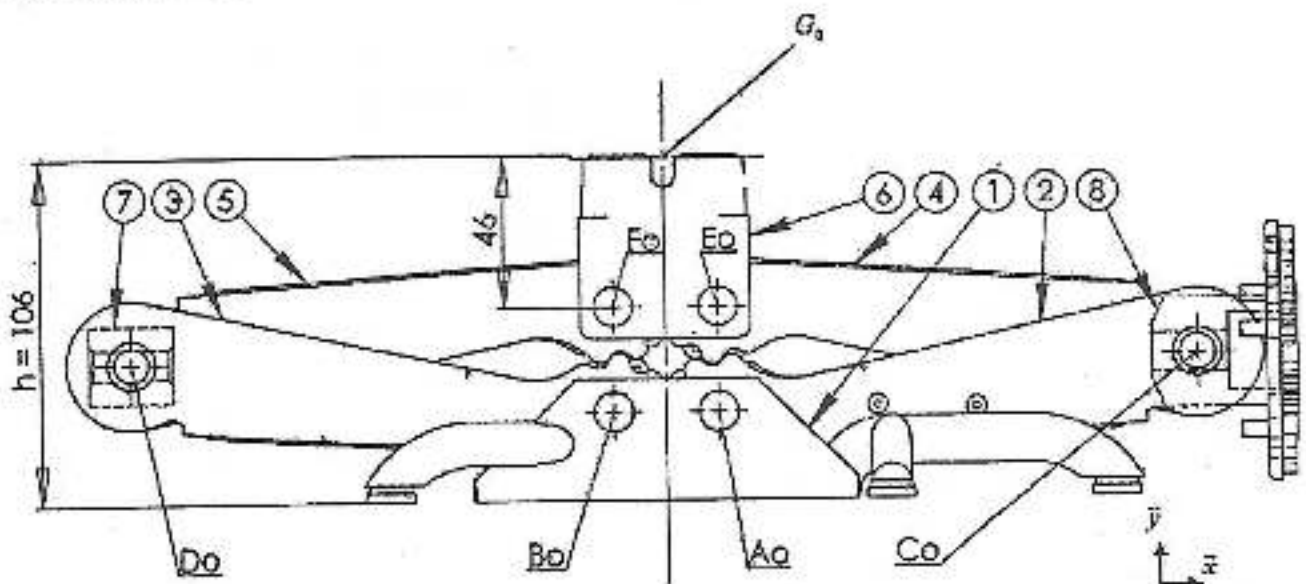

Figure 2
The car jack is presented in folded configuration (low position, figure 2). They place it under the vehicle at the level of the mark registered on the chassis. After connection on the socket cigar-lighter of the car, the user controls the deployment or the fold of the jack via a control placed on the wire supply. The jack is set in motion by an energy chain made up of the following elements:
- The jack is in low position (figure 2). It is deployed to lift a car;